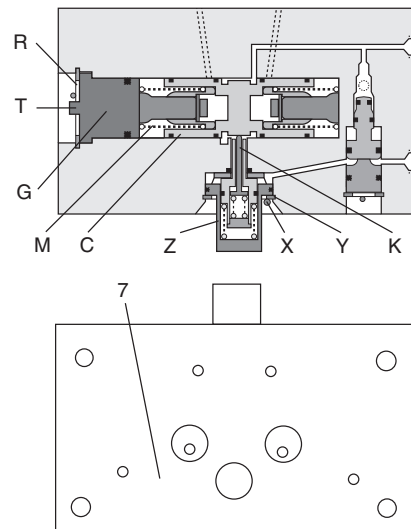

Figure 9 - Cross Section and Bottom Face of Monitor
Faulty seals on spool C (Figure 9) can result in air leaks or cause the spool to jam so that the L-G monitor does not function properly.
2. Remove pin X (Figure 9), retaining ring Y, and lockout pin assembly Z.
If lockout pin K (Figure 9) is bent it will not retract when resetting pressure is applied, and the monitor remains locked out. To remove the lockout pin follow steps 1 and 2 in *Repair Procedure E*. Assembly with a new pin is the reverse of disassembly.